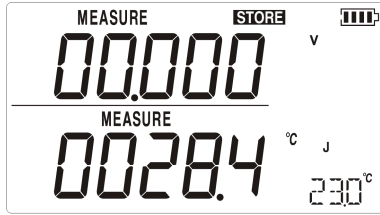

Figure 5.1.2-1
1. Press **STORE SETUP** key to enter the set mode, reading as shown in Figure 5.1.2-1, the appear of **STORE** sign shows that entering the setup mode, the assistant value **230** means the value of manual compensation.